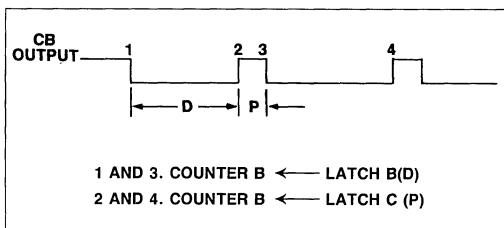

Figure 18. Counter B Pulse Generation
2. The lower 8 bits of D are loaded into LLB by writing to address 001C, and the upper 8 bits of D are loaded into ULB by writing to address location 001E. Writing to address location 001E also causes the contents of the 16-bit Latch B to be downloaded into the Counter B and causes the CB output to go low as shown in Figure 18.